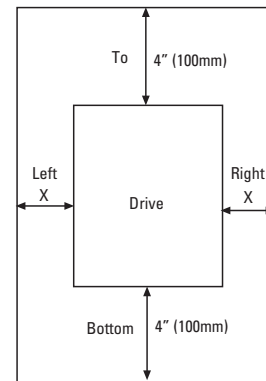

Fig. 2-2-1 30 HP or less: Gap X can be 0. (side-by-side installation) 40HP or more: Gap X >= 2.0" (50mm)
1. Securely fasten the product in an upright position on a solid structure with the tag VG10 facing the front. Do not turn the product upside down or install in a horizontal position. Fig. 2-2-1
2. Since heat is generated during drive operation, the spaces shown in Fig. 2-2-1 are required to ensure sufficient cooling. Do not install the product beneath a device sensitive to heat as heat radiates upward.